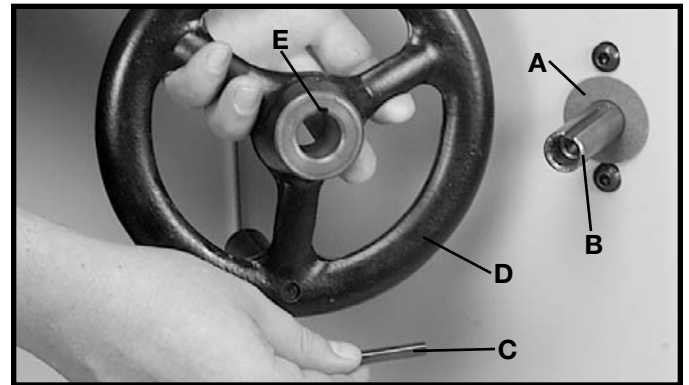

Fig. 3
1. Install fiber washer (A) Fig. 3, on the blade tilting mechanism shaft (B). Install key (C), into shaft keyway.
2. Place handwheel (D) on shaft (B) Fig. 3. Make sure the groove (E), in the handwheel lines up with the key (C).